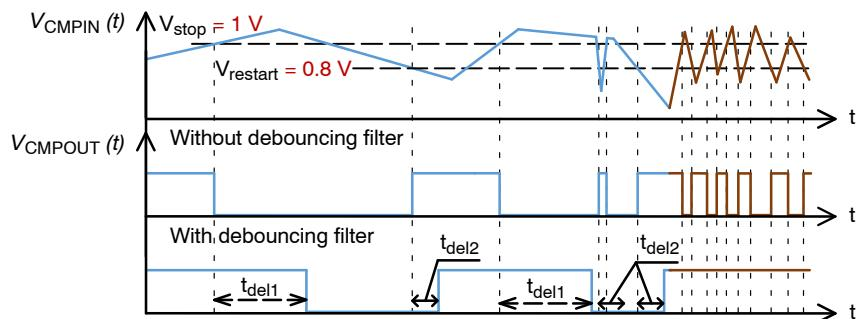

Figure 52. Over-temperature/Over-current Detection with/without De-bouncing Filter
Over-temperature detection is based on pull-down PTC thermistor connected to CMPIN pin. Internal current source force the current value  $I_{\text{ref1}} = 120 \mu\text{A}$  through the PTC. If the over-temperature condition appears, the resistance of the PTC thermistor increases, i.e. the sensed voltage reaches the value  $V_{\text{stop}} = 1 \text{ V}$  and the comparator turned-on the internal MOSFET, which force the COMPOUT pin to the Low state. The de-bouncing time constants  $t_{\text{del1}} = 50 \mu\text{s}$  and  $t_{\text{del2}} = 10 \mu\text{s}$  on comparator output can be implemented as an option. The COMPOUT pin goes back to High Z state, when the sensed voltage on PTC decreases below the value  $V_{\text{restart}} = 0.8 \text{ V}$ . Figure 52 shows the comparator operation with/without de-bouncing filter based on input voltage on CMPIN pin.